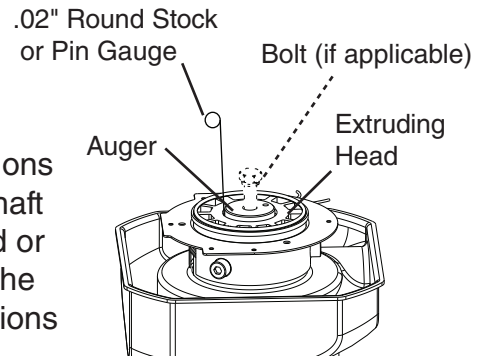

Fig. 9
- 5) Replace the bolt in the auger (if applicable). See Fig. 9.